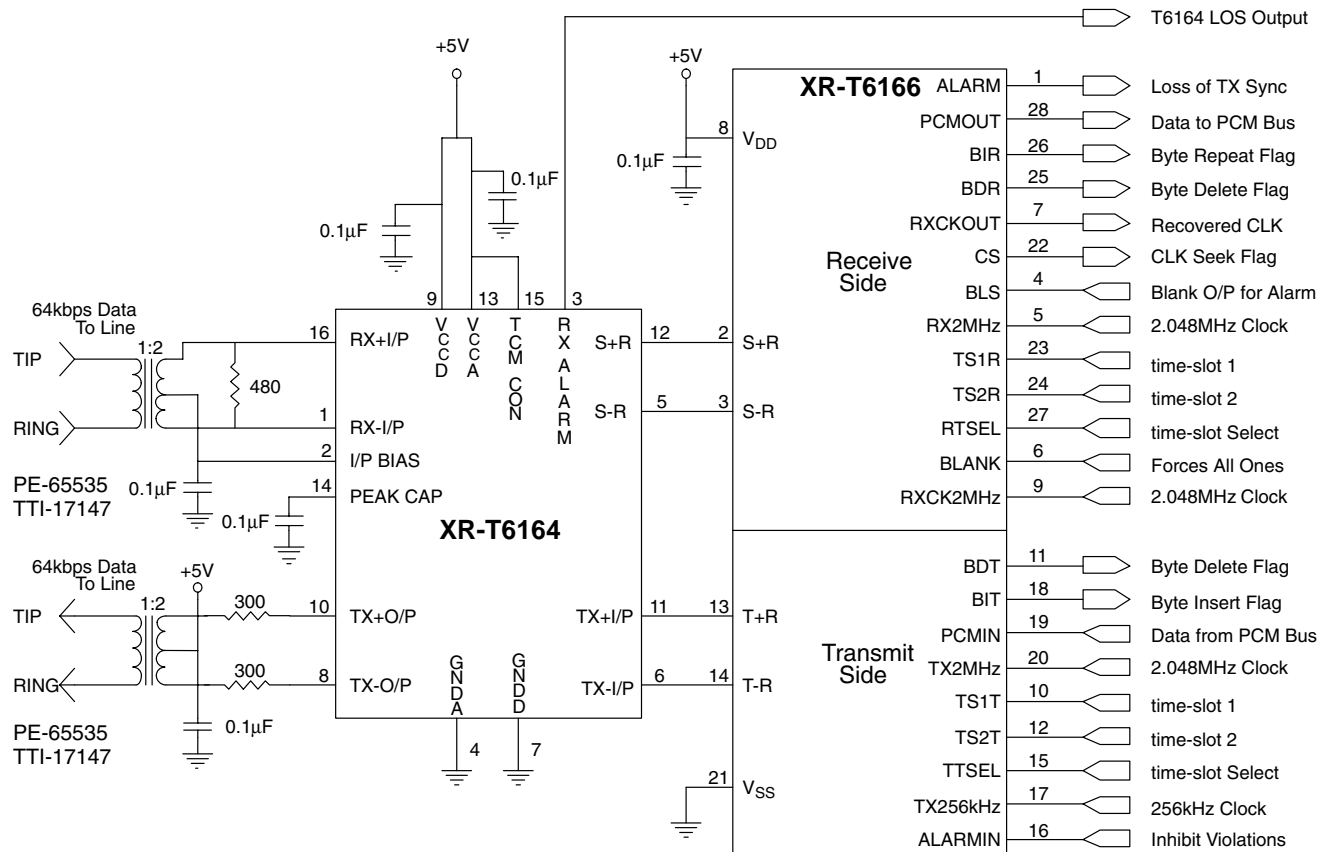

Figure 7. Typical Codirectional Application Circuit
*Figure 7* shows a codirectional interface circuit using the XR-T6166 with the XR-T6164 line interface. The XR-T6164 first converts the bipolar 64kbps transmit and receive signals to active-low TTL compatible data required by the XR-T6166. The XR-T6166 then performs the digital functions that are necessary to interface this 64kbps continuous data to a 2.048Mbps PCM time-slot. The 64kbps signals that have been attenuated and distorted by the twisted pair cable are transformer-coupled to the line side of the XR-T6164 as shown on the left side of *Figure 7*. A suggested transformer for both the input and output applications is the pulse type PE-65535.
The right side of *Figure 7* shows the XR-T6164 LOS (Loss of Signal) output and the XR-T6166 digital inputs and outputs. All of these pins are TTL compatible. Please refer to the Pin Description section of this data sheet for detailed information about each signal.